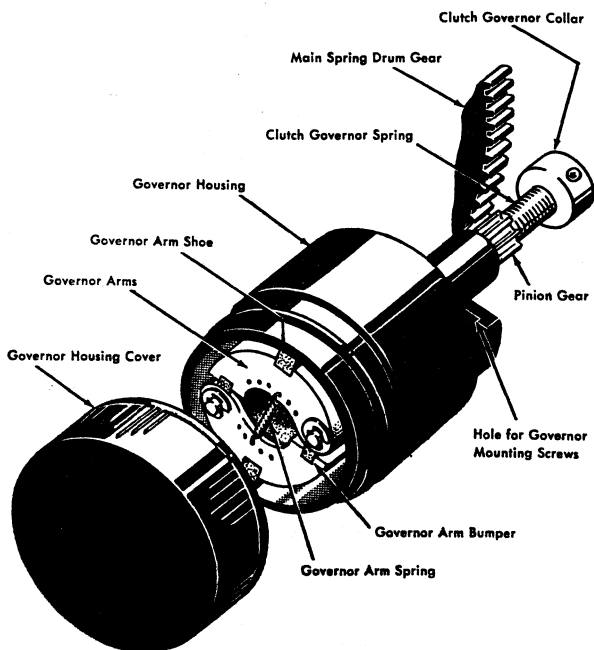

Figure 37. Centrifugal Tab Governor
- a. Position the governor by means of its mounting screws for a maximum of .005" backlash between the pinion gear and the main spring drum gear. Check full length of the carriage (Figure 37).
- c. Speed of the carriage on tabulation is adjusted by moving the governor arm spring. Move the spring closer to the governor arm pivots for more governor action, move the spring away from the pivots for less governor action (Figure 37). (This spring must be in a corresponding hole in each governor arm.)